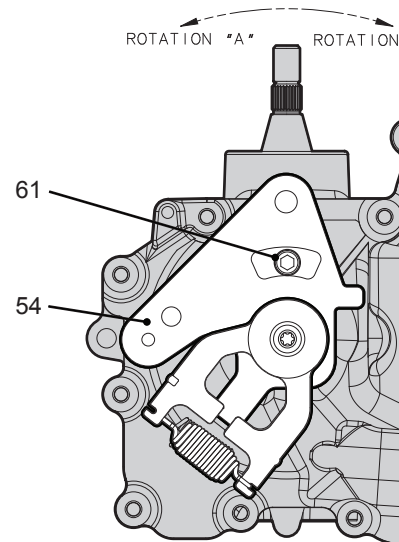

Figure 4, Return to Neutral
6. Note the axle directional movement. Stop the vehicle engine. Loosen the lock down screw (61) until the control arm (54) can be rotated. Rotate the control arm in the opposite direction of the wheel rotation 5 degrees. Tighten the lock down screw. Recheck according to steps 3 and 4. Refer to Figure 4.